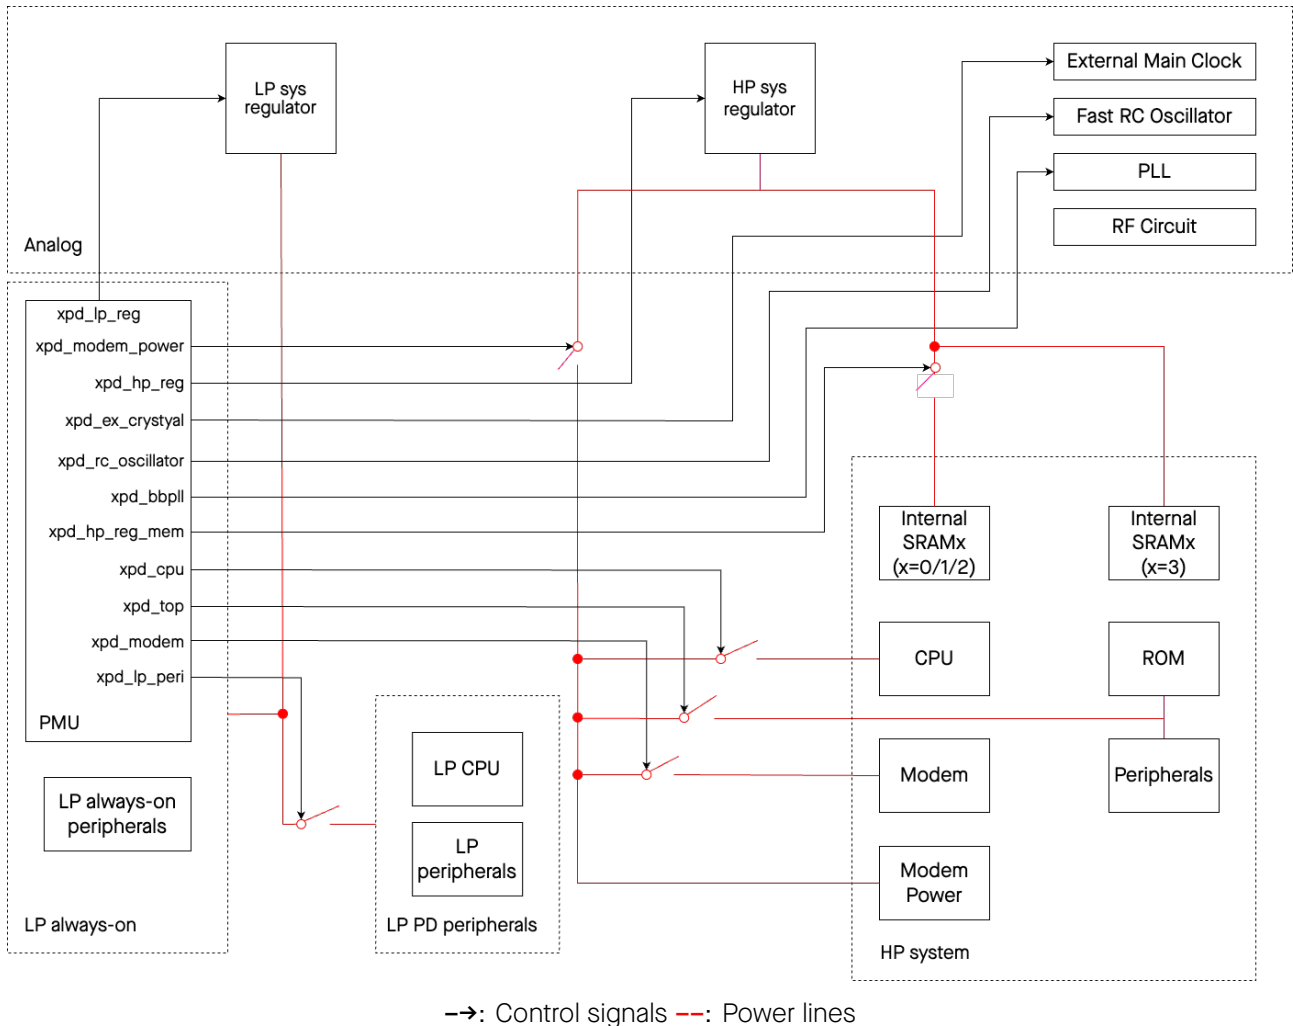

Figure 12.4-1. ESP32-C6 Power Scheme
Figure 12.4-1 shows the power scheme of ESP32-C6 that mainly includes:
As shown in Figure 12.4-1, the analog part of ESP32-C6 contains two regulators that regulate the power supply to different power domains. The two regulators are:
- **Internal SRAMx:** It is divided into four sub-power domains, as shown in Figure 12.4-1, where each of SRAM0/1/2 has an independent power switch, while SRAM3 is directly connected to the regulator without a power switch.
As Figure 12.4-1 shows, ESP32-C6 contains the following analog power domains, among which PLL belongs to the HP system while the other domains belong to the LP system: